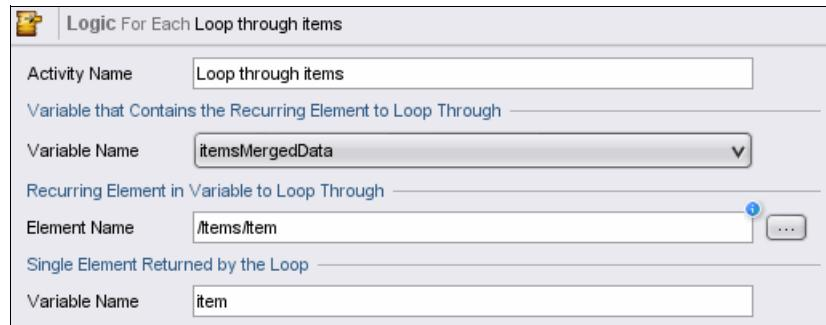

Figure 12-65 For Each settings
3. Enter **item** for the Variable Name field in the Single Element Returned by the Loop section. Figure 12-65 shows the For Each settings.